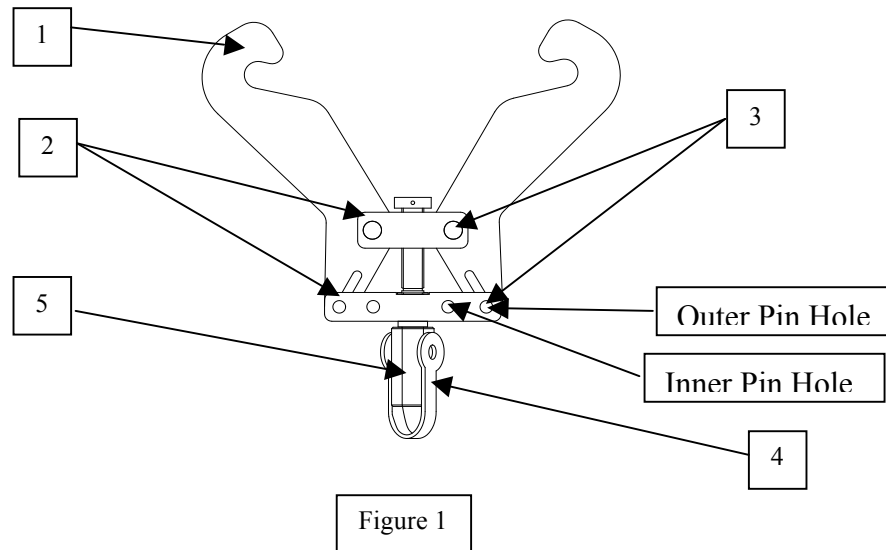

Figure 1
1. Spread Skyclamp jaws open to the widest position by rotating the Hex Tightening Nut counter-clockwise. Note: If the clamp will not open wide enough to fit onto the I-beam with the pivot pins inserted into the outer pin holes as pictured in Figure 1, remove the locking rings and insert the pins into the inner pin hole allowing the clamp to open wider. Make sure the lock rings are replaced and verify that both pivot pins are in the inner hole.